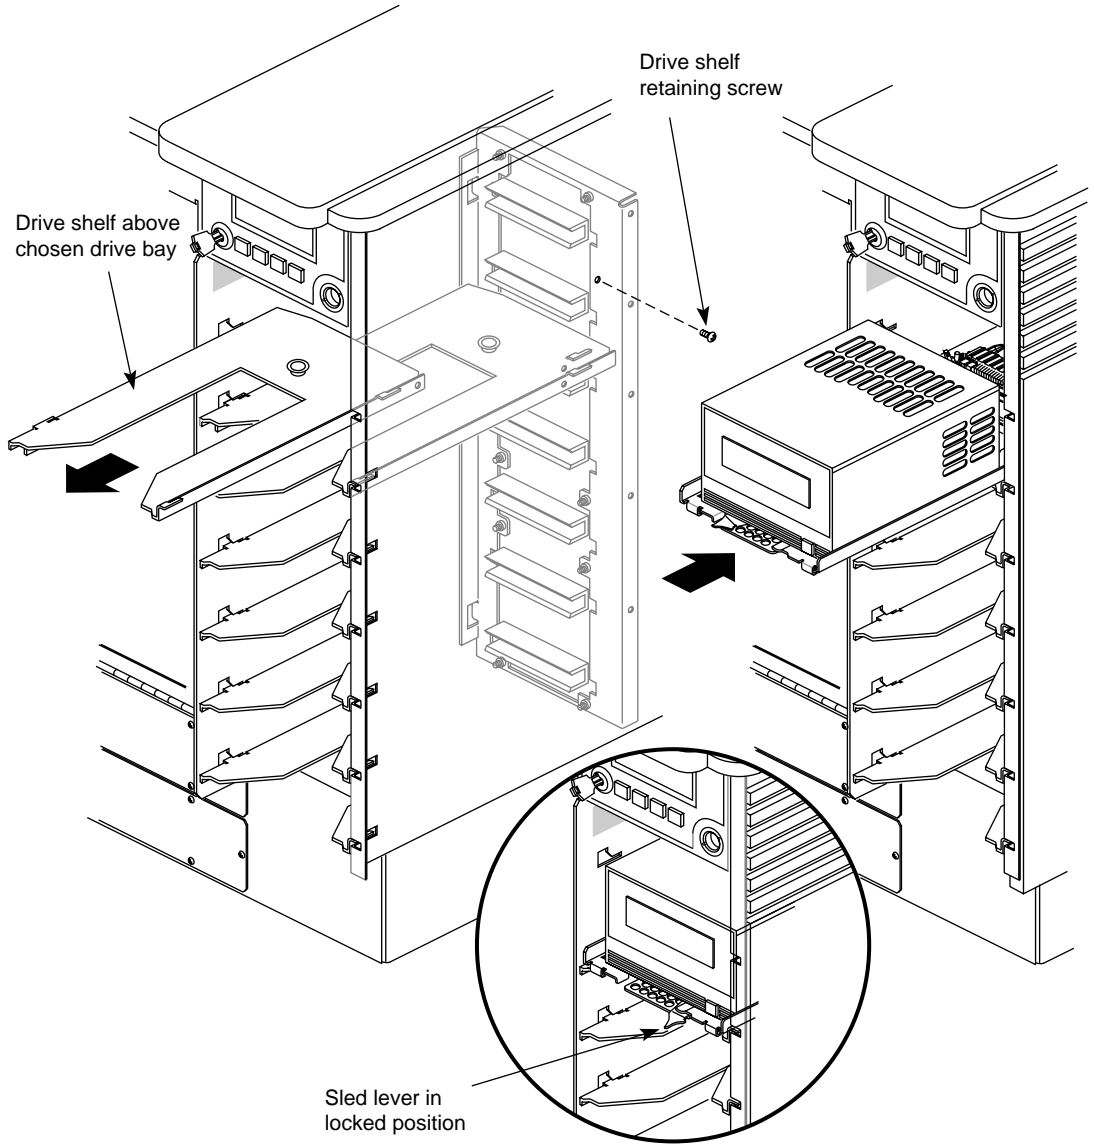

Figure 4-6 Installing a Full-Height Front-Loading Device
5. Pull the drive shelf straight out of the chassis. See Figure 4-6.
8. Carefully insert the device into the drive bay until it seats firmly into the lever catch and the lever will not move any farther to the right. See Figure 4-6.